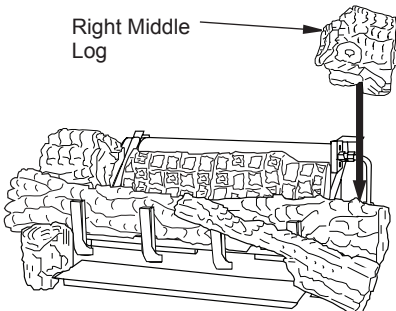

Figure 53 - Installing Right Middle Log
7. The right middle log has a groove on the bottom to sit on the chassis and has to sit on the tab on the back of the right front. The right middle log should have a recess area that fits around the ramp log as shown in Figure 53.